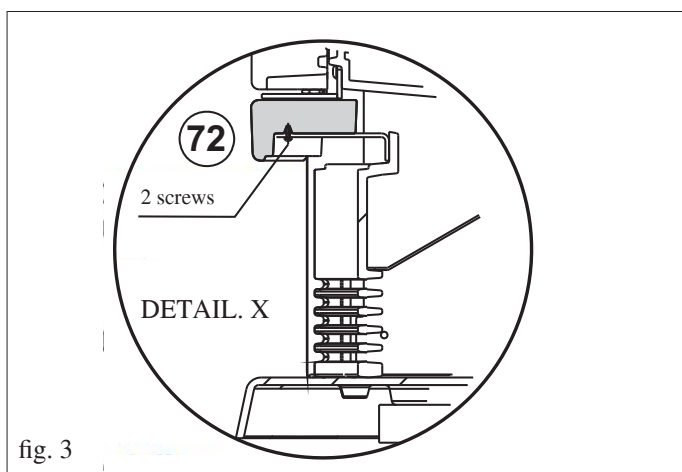

fig. 3
- Position the front panel (72) and use an Allen key to fasten it in place using the 2 supplied M6x25 screws as indicated in detail "X" (fig. 3).